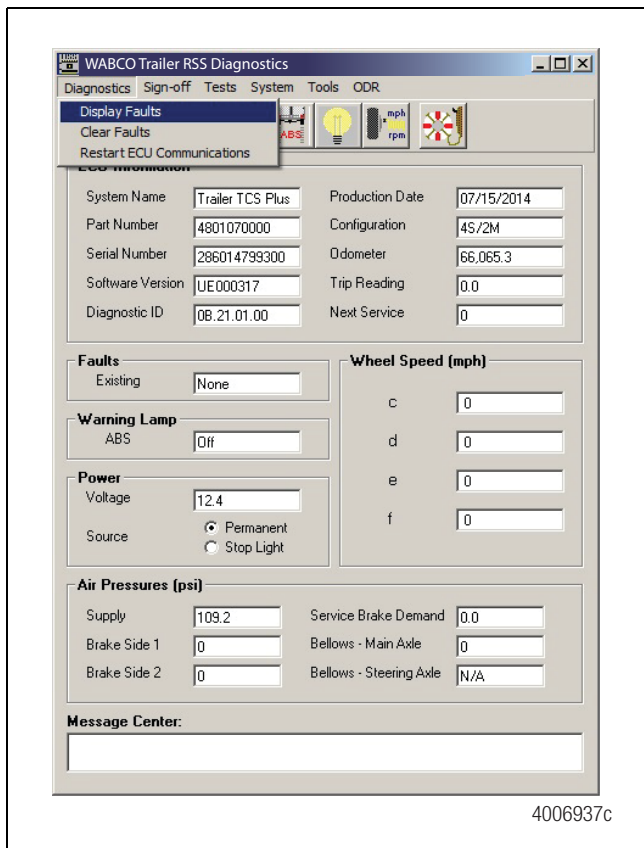

Figure 5.7
1. From the main screen of the WABCO trailer EBS diagnostics software, select **Diagnostics** from the top menu bar. Figure 5.7.